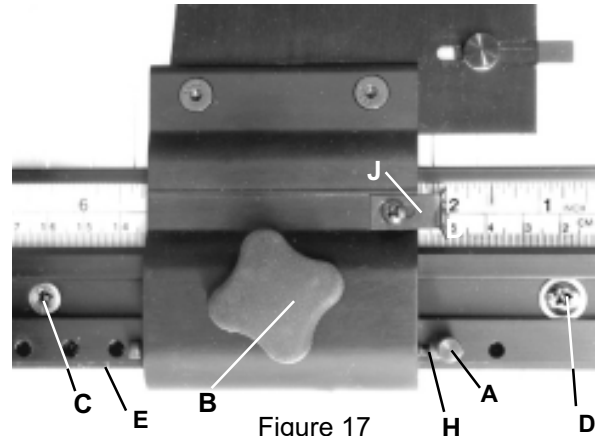

Figure 17
1. Slide the **Mat Guide** to the right until it contacts the **Locator Pin (A)** in the 2" (50mm) hole, and tighten the **Lower (B)**, then **Upper Locking Knobs** on the **Mat Guide**. See Figure 17.
4. If the two cuts are not in line, the **Mat Guide** must be squared as follows: Loosen the left-hand (**C**) and right-hand (**D**) screws on the **Mat Guide Slide (E)**. Loosen both the **Lower Locking Knob (B)** and **Upper Locking Knobs (F)**. Place the two **Squaring Fixtures (G)** (from the parts bag) on the steel **Shaft**, one near the bottom end of the **Mat Guide** and the